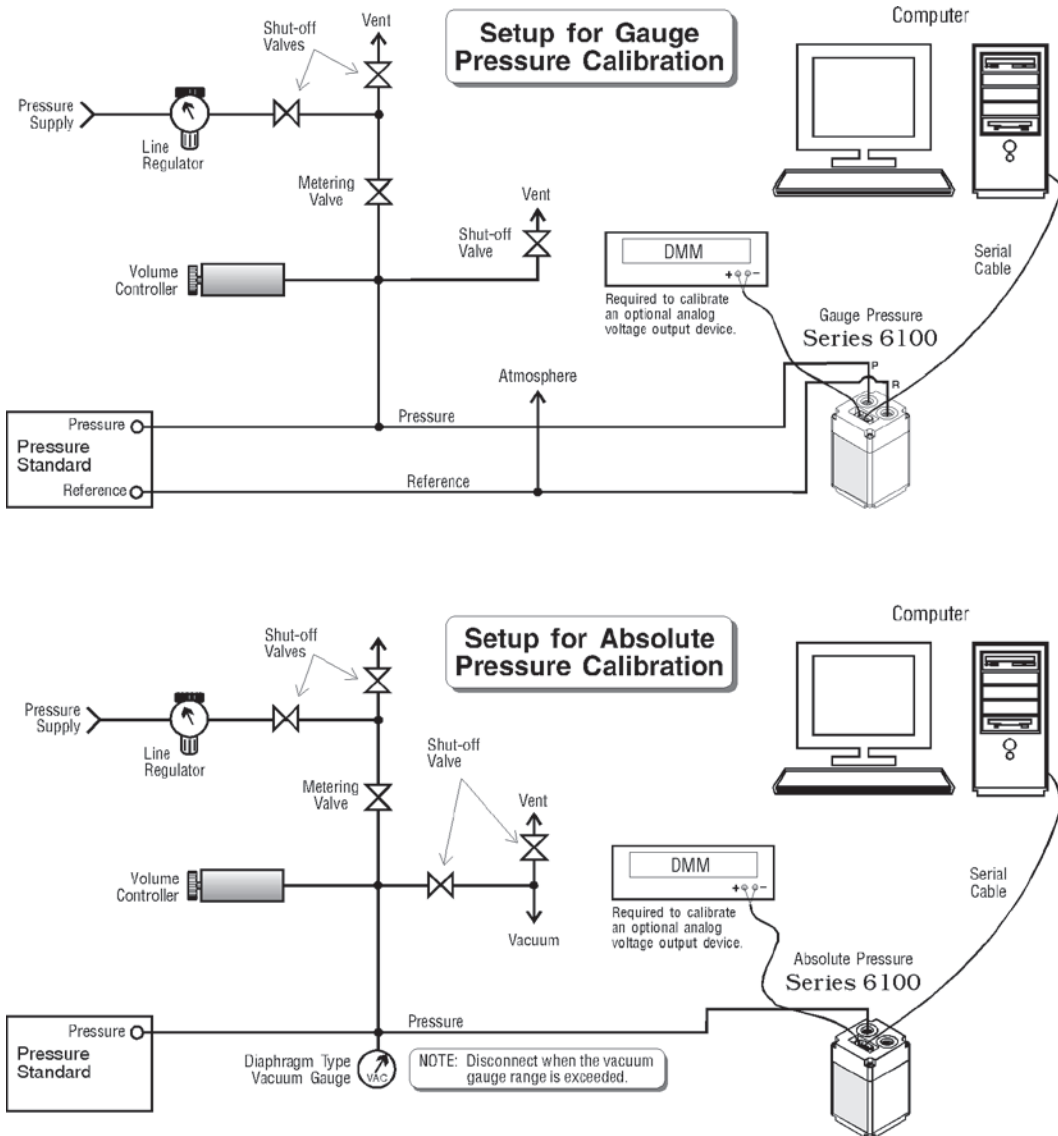

Figure 8.2 - Calibration Setup
The following equipment is needed to calibrate a gauge transducer (see Figure 8.2):
2. Use the setup for absolute pressure shown in Figure 8.2. Apply a stable pressure value between 600 mTorr absolute and 20% of the transducer’s span. Measure the reference pressure reading in the native units of the CPT61XX. This reading becomes the “true pressure”.